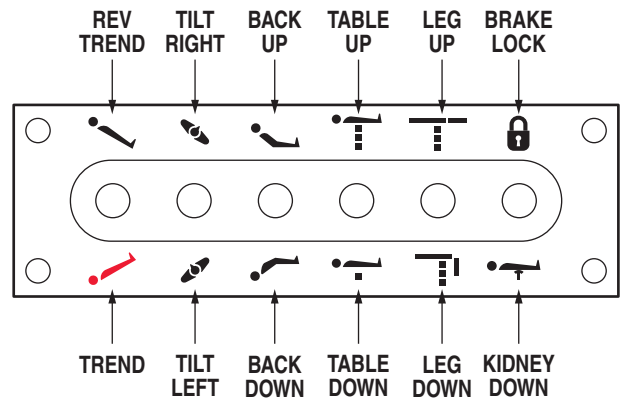

Figure 2-20. Emergency Back-Up Controls
b. In the event of either a power failure or a problem with the hand-held pendant control, the table can be operated using the emergency back-up switches. Simply push the desired emergency switch in the appropriate direction to operate the table functions. See figure 2-20.